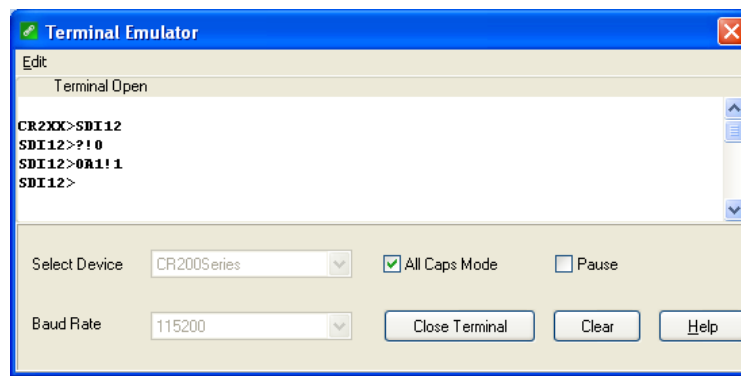

FIGURE D-1. CR200(X) example of using the SDI-12 transparent mode to change the SDI-12 address from 0 to 1.
D.2.1 CR200(X) Series Datalogger Example
6. To change the SDI-12 address, key in **aAb!** <enter>, where *a* is the current address from the above step and *b* is the new address (see FIGURE D-1). The C470/CS471 will change its address and the datalogger will respond with the new address. To exit SDI-12 transparent mode, select the **Close Terminal** button.